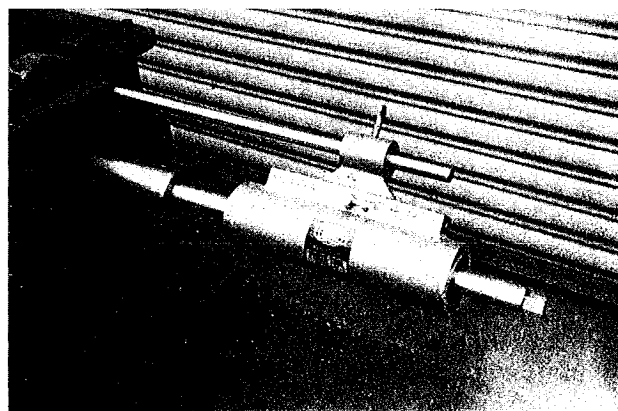

Fig 8 Feed Unit Installed on the Torsion Bar
4. Install the feed unit into the boring bar locking it in position by tightening the set screw at the end of the bar. Slide the feed unit onto the torsion bar and tighten the Square Head Set Bolt (hand tight). The boring bar must slide in and out of the block easily after these tightening operations. (See Fig 8)